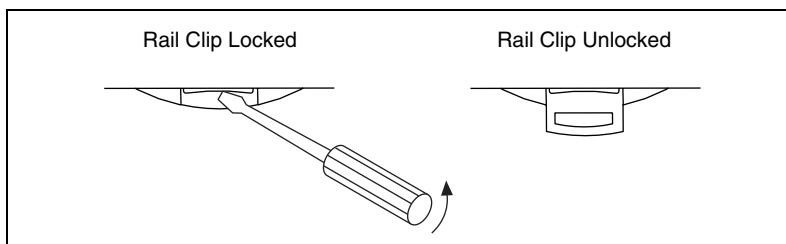

Figure 2-1. DIN Rail Clip
1. Use a flathead screwdriver to open the DIN rail clip to the unlocked position, as shown in Figure 2-1.
3. Slide the FBUS-HSE/H1 LD to the desired position along the DIN rail. After the FBUS-HSE/H1 LD is in position, lock it to the DIN rail by pushing the rail clip to the locked position, as shown in Figure 2-1.
To remove a linking device, unlock it from the DIN rail by placing a screwdriver in the slot on the rail snap and open the rail snap to the unlocked position, as shown in Figure 2-1. Then lift the device off of the rail.
1. Use a flathead screwdriver to open the rail clip to the unlocked position, as shown in Figure 2-1.